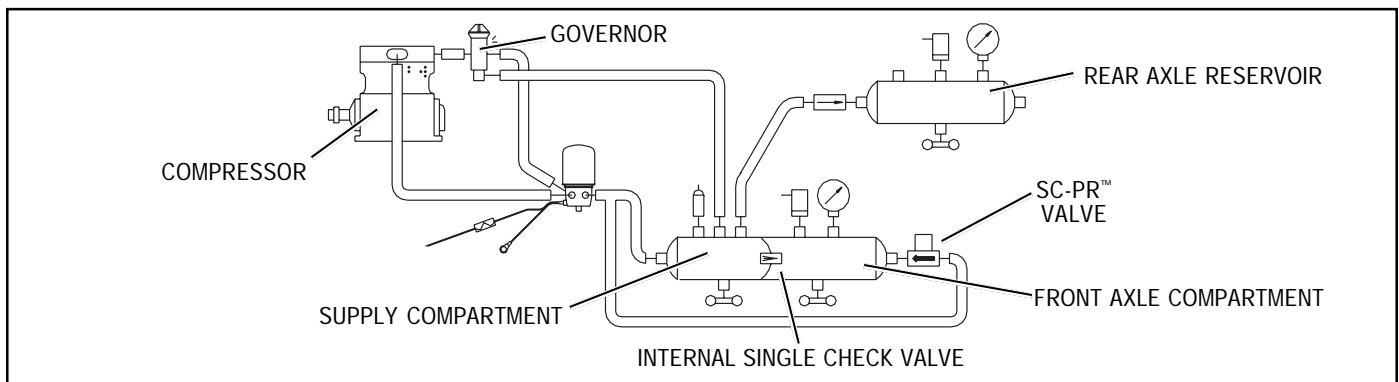

FIGURE 13 - SC-PR™ SINGLE CHECK PROTECTION VALVE INSTALLED IN MULTI-COMPARTMENT RESERVOIR
3. Locate an unused port in both the supply compartment and front axle compartment of the multiple compartment reservoir. Install the SC-PR™ valve in the front axle reservoir (or compartment). Connect the supply port of the SC-PR™ valve to either an unused port in the supply compartment of the reservoir OR Tee into the line between the AD-SP™ air dryer and the supply compartment of the reservoir. **Note:** Use 3/8" air brake tubing. Refer to Figure 13.